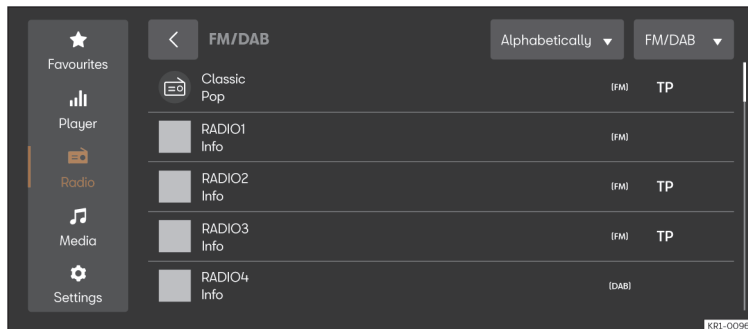

Fig. 156 Schematic representation: Radio view.
- Press **HOME** > > >>> **Fig. 156**.